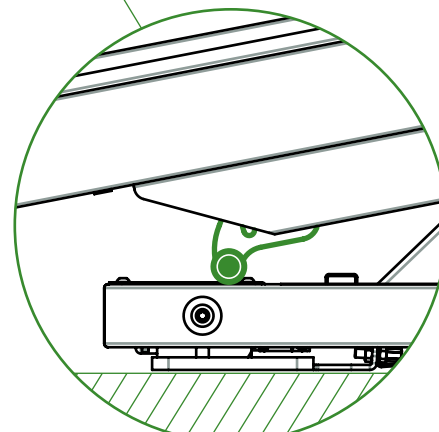

FIGURE 4
- Locate the adjustment supports that are placed in the central inner part of the platform, on both sides, and that have the roller that acts as a stop when tilting the platform completely (see figure 4).